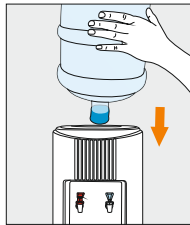

Figure 2
2. Place the water bottle on top of the cooler appropriately. For open reservoir models, the bottle cap needs to be removed.(Figure 2)